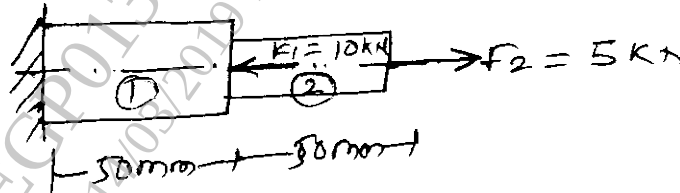

Fig. 2.
- Q4) a)** Using direct stiffness method, determine the nodal displacement of stepped bar shown in Fig. 2. [6]